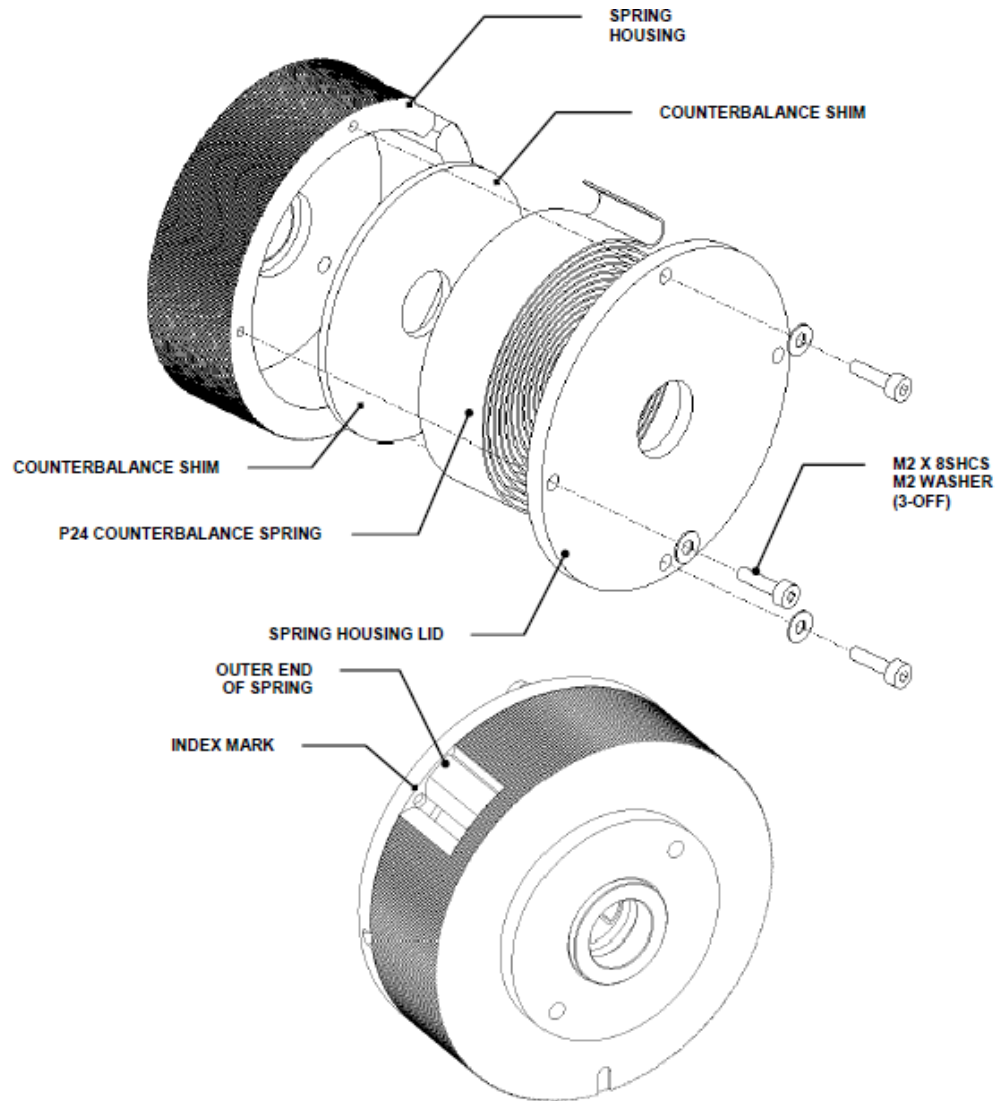

Figure Z-27: Spring Assembly
2. Place Counterbalance Shim into Spring Housing removing the spring retainer as required (Figure Z-27). Ensure that the spring is inserted so that the edge of the outer coil is flush with the face of the Spring Housing around the whole of its circumference. This can be achieved by pressing the housing and part inserted spring down onto a flat surface.